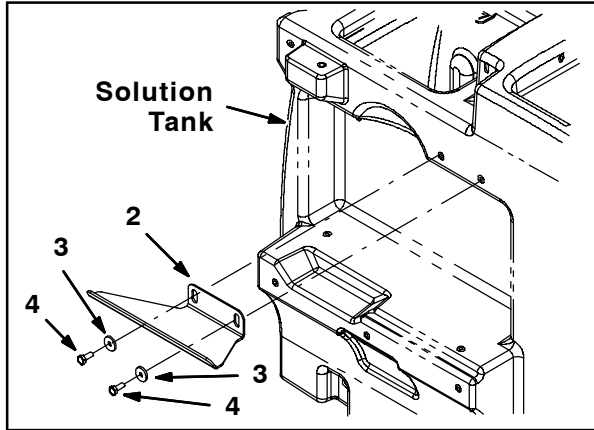

FIG. 3
16. Use two hex screws (4) and two flat washers (3) to install the spray wand mounting bracket (2) onto the recovery tank. Refer to Fig. 3.